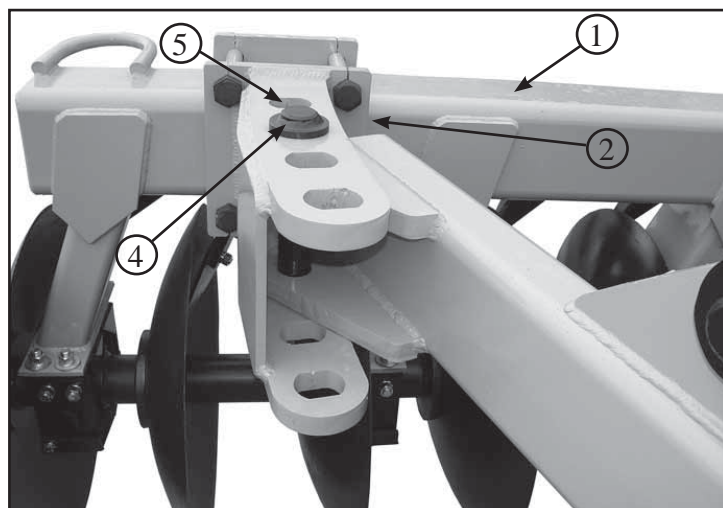

Figure 21
3.1.2 REAR HINGE ASSY (Fig. 21 & 22)
Install the R.H. rear hinge assembly (2) onto main frame as shown in Figure 21 placing the pin (4) in the hole for minimum rear gang angle (5) and secure with a bolt.